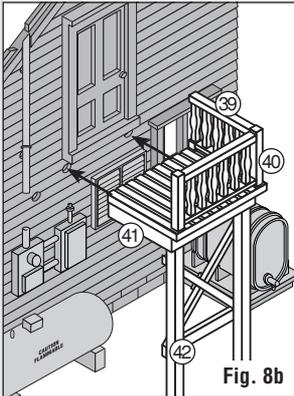

Fig. 8b
- Assemble backstairs. Glue Short Railing (39) and Long Railing (40) to Landing (41). Attach Stair Support (42) to Landing Assembly. Glue Assembly in place (Fig. 8b).